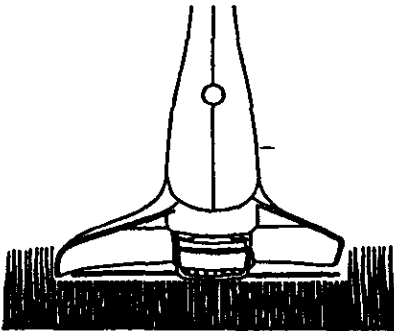

Fig. 10
1. TRIMMING / MOWING (Figure 10). Swing trimmer with a smooth even motion from side to side. Do not tilt the stringhead during the procedure. Keep stringhead at same level for even depth of cut.